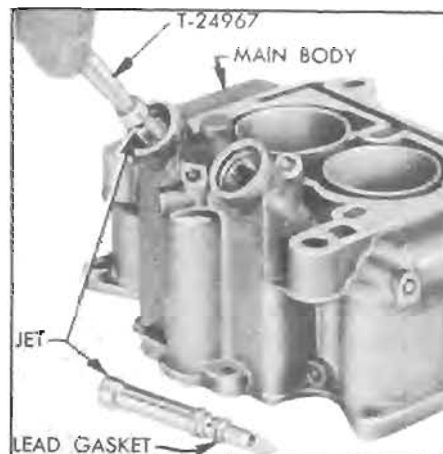

Figure 3-64—Removing Main Discharge Jet
14. Remove main discharge jets by screwing Jet Remover T-24967 (R.H. thread) into base of jet, then pulling jets from main body. See figure 3-64. The threads formed in the main discharge jet by the tool will not affect the metering characteristics of the jet. NOTE: Make sure that main discharge jet lead gaskets are removed from main body.